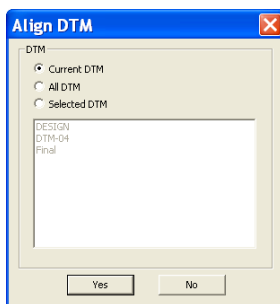

Figure 10-43. Align a DTM
3. Left-click on the mouse to display the *Align DTM* dialog box (Figure 10-43).